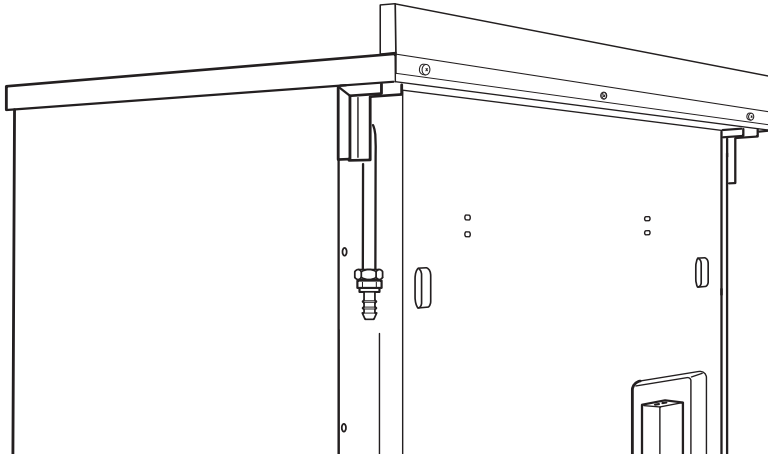

Fig. 2.1a
- The gas supply is connected at the rear of the cooker to the left terminal of the gas inlet pipe (fig. 2.1a). The connection pipe must not cross the rear of the appliance.